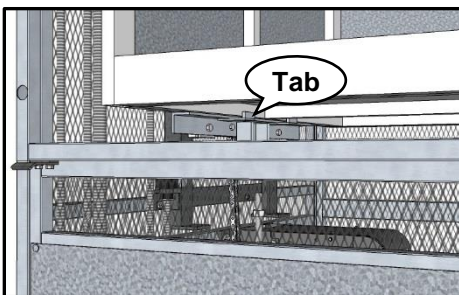

Figure 35
- 3** When positioning carrier on trolley, make sure the tabs are hooked under carrier as shown in **Figure 35**.